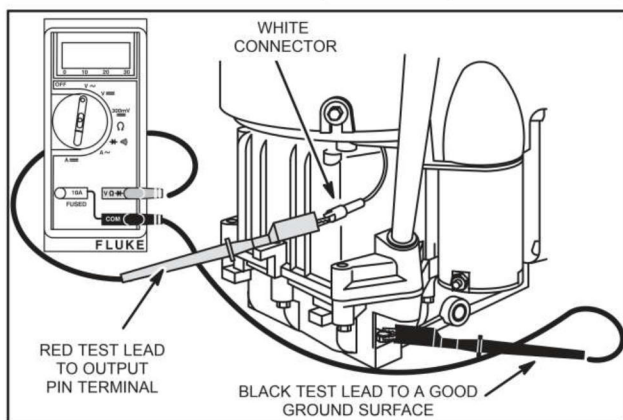

Fig. 10 – Testing AC Output
4. Attach RED test lead clip to AC output terminal, Fig. 10.